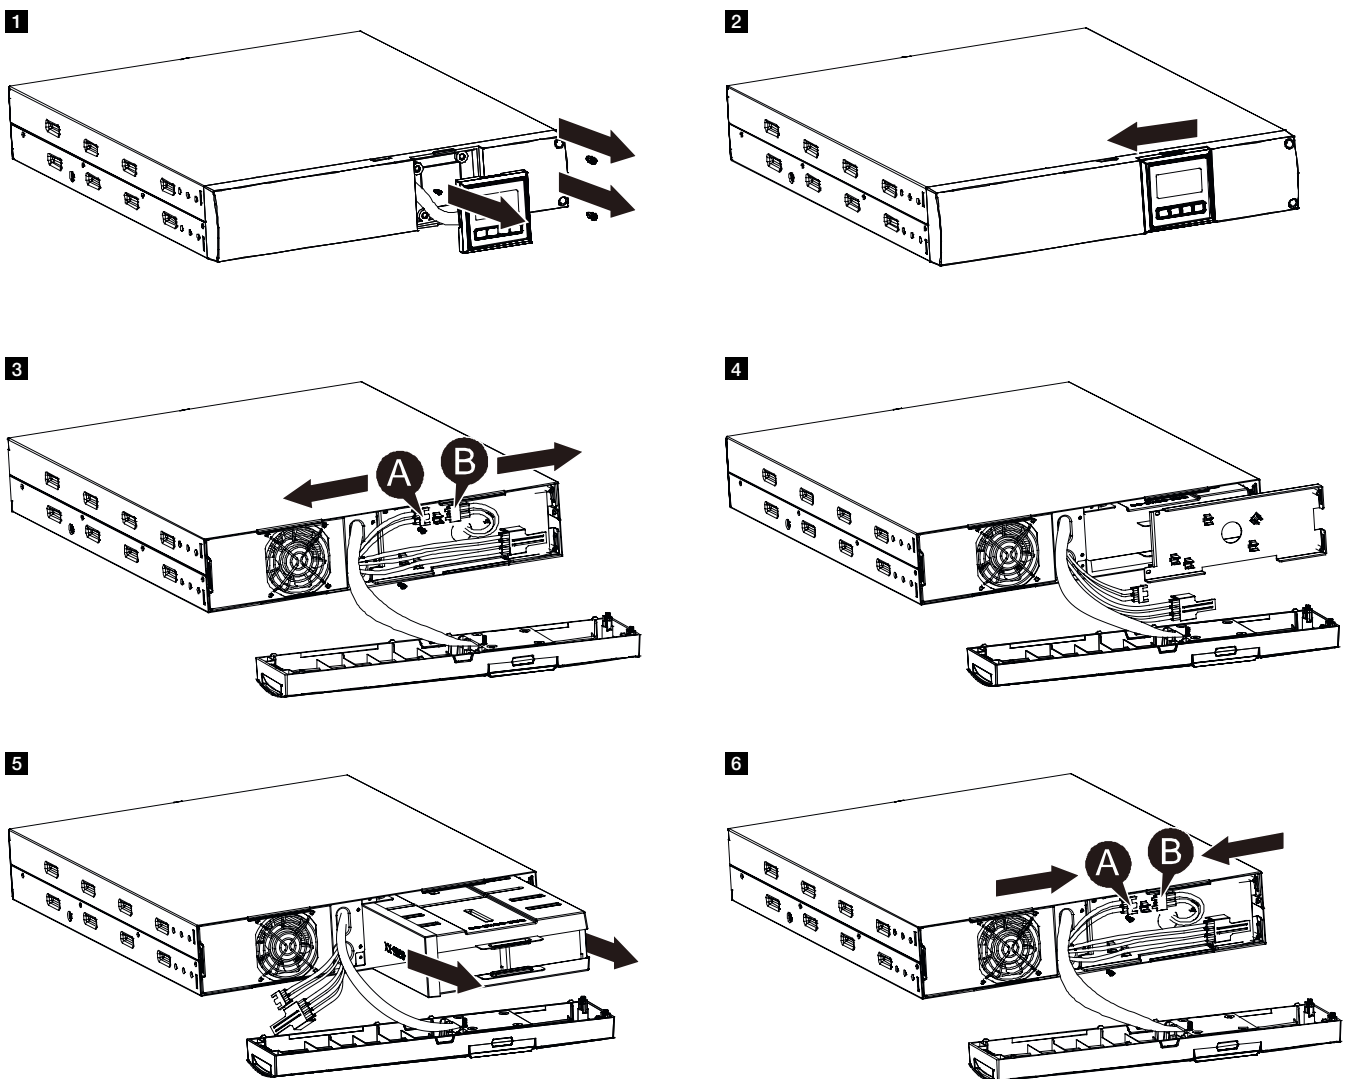

Figure 1: Replacing internal batteries
7. Screw on the battery protection and reconnect the battery cable (A and B in Figure 1).